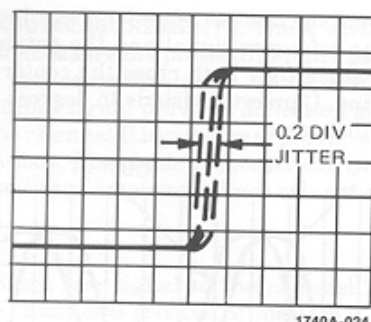

Figure 22. Pulse Jitter Measurement
6. Measure horizontal displacement on the center horizontal graticule line as shown in figure 22. This displacement times the delayed TIME/DIV setting is the pulse jitter in time.
Example: Assume the delayed TIME/DIV setting is 0.1 mSEC and the horizontal displacement is 0.2 div (see figure 22).